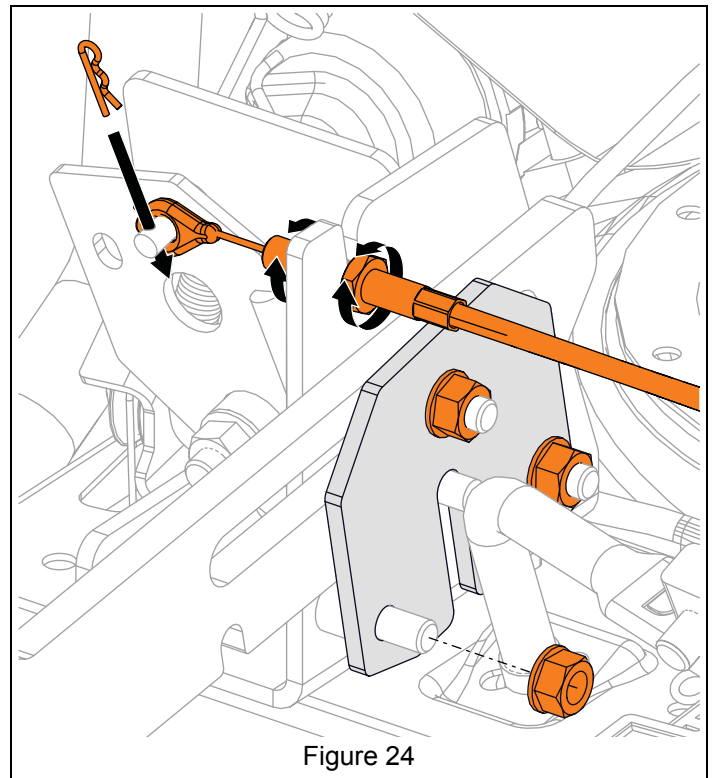

Figure 24
4. Reinstall three carriage bolts through height adjuster bracket and reinstall spacers onto bolts. See Figure 24.